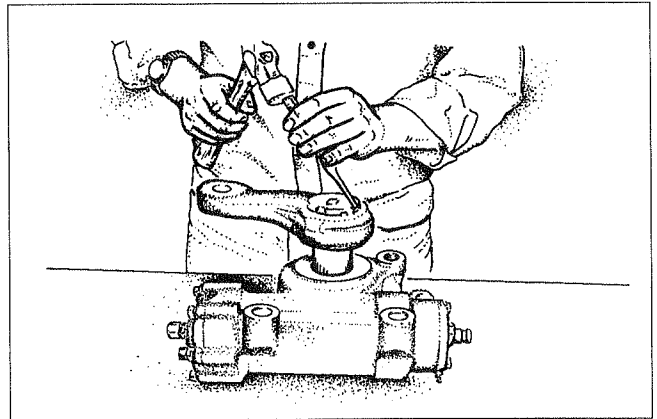

Figure 6
3. Bend the tabs out of the retainer (Figure 6).